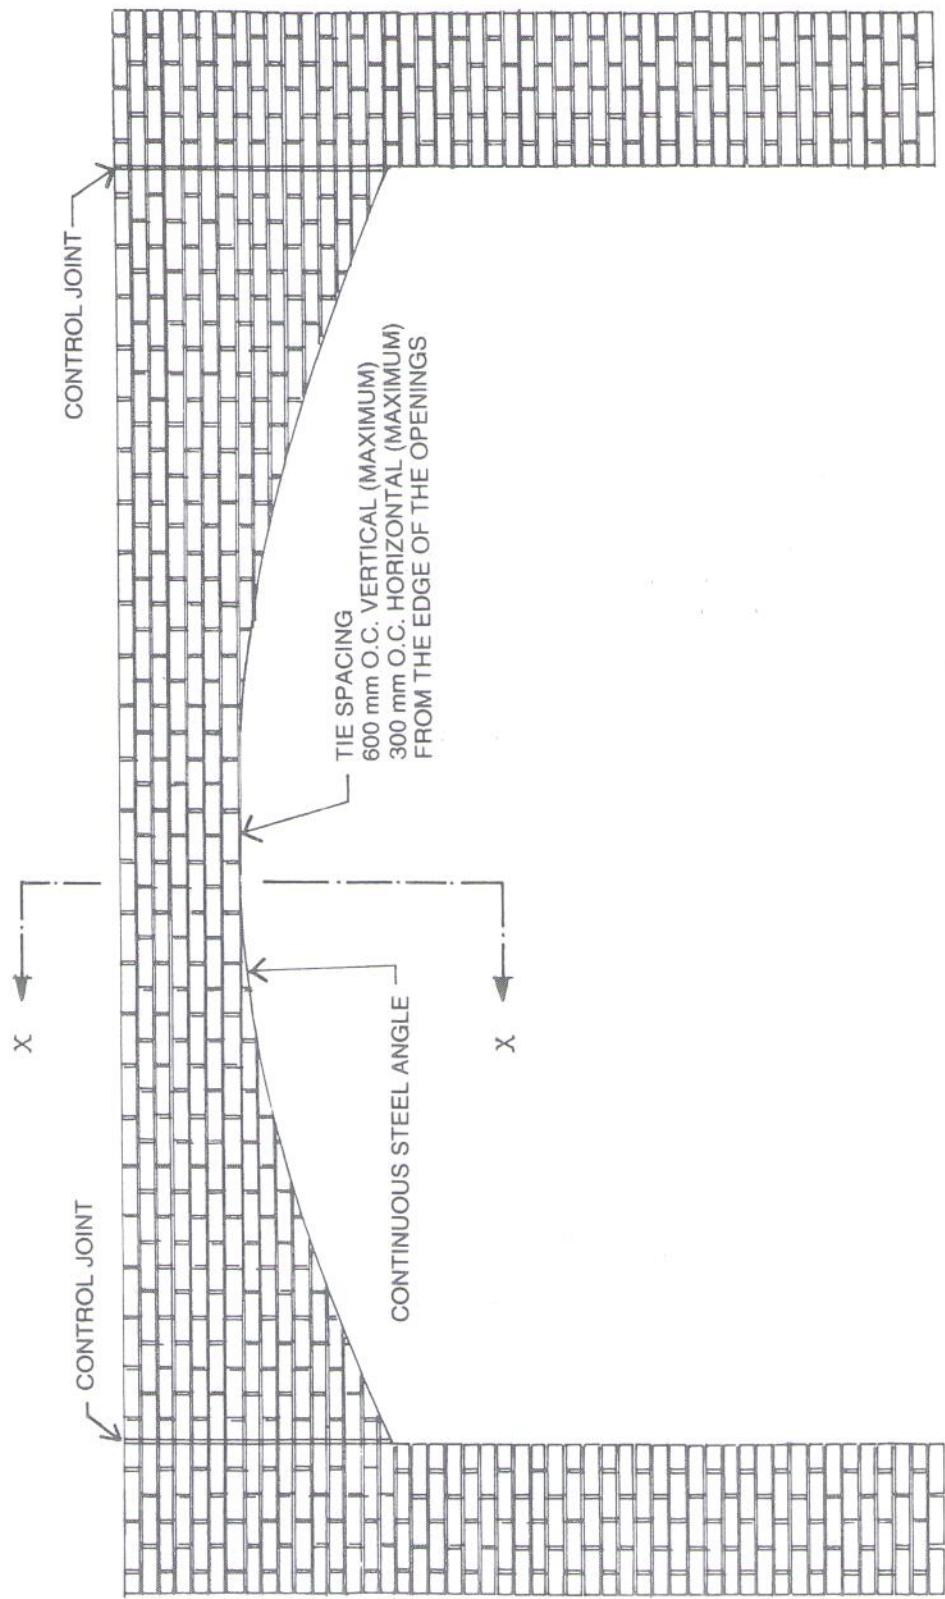

Figure 2 Brick veneer over garage door opening
- Figure 2 Brick veneer over garage door opening